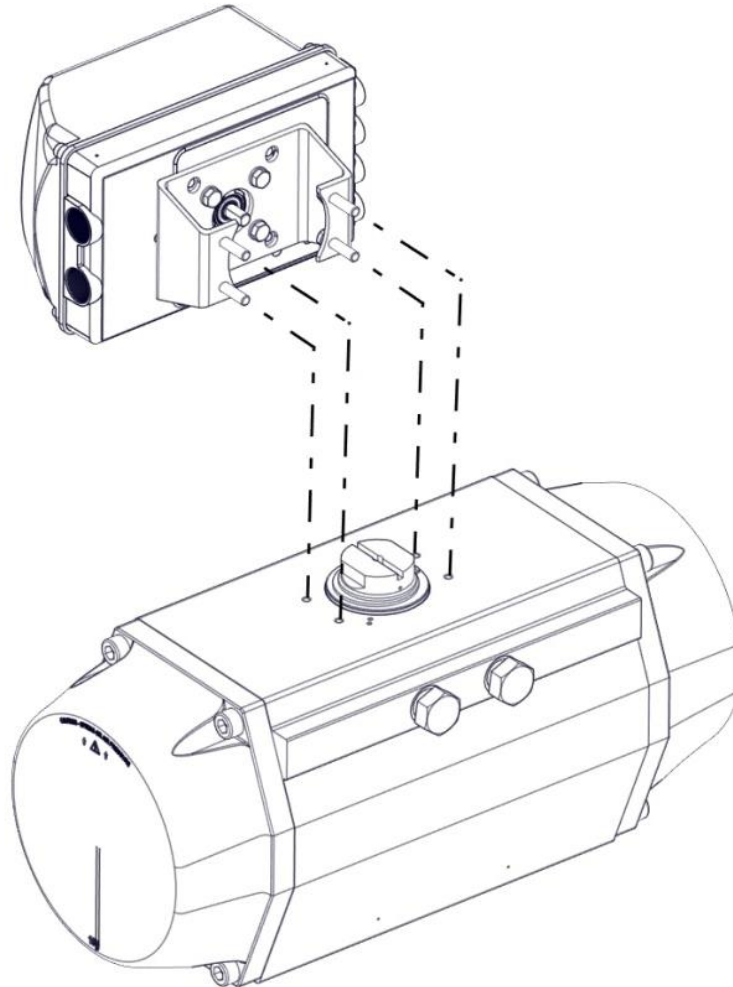

Figure 6: Mounting the Positioner on a rotary actuator
3. The assembly is then mounted on the actuator (refer figure 6 below) while taking care that the shaft enters in the slot of the actuator pinion.